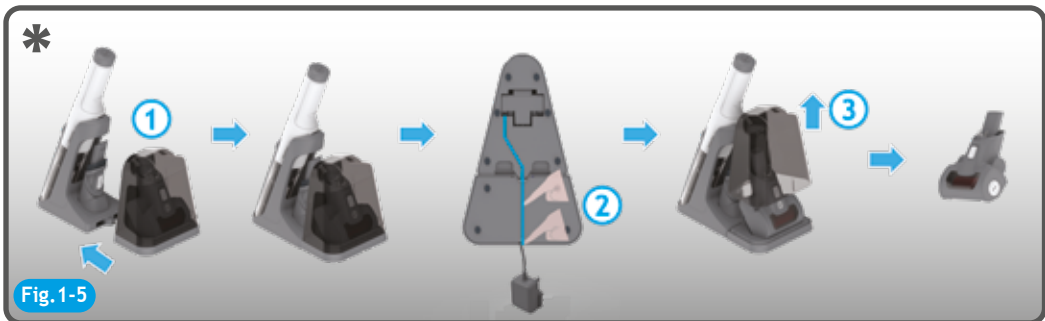
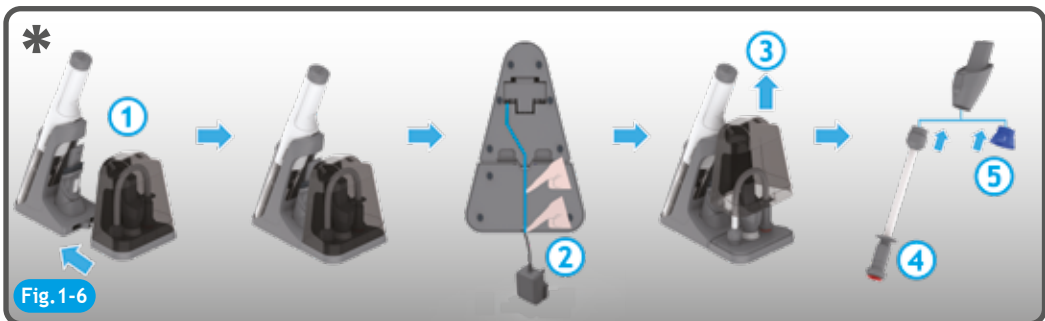

Fig. 1-5
Fig. 1-6
7. Insert the accessory box* into the back of charger base. [Fig. 1-5 and Fig. 1-6]
8. Press the wire into the wire slot. [Fig. 1-5 and Fig. 1-6]
9. Put the Power pet nozzle* into the accessory box*. [Fig. 1-5]
10. Put the Space & food saver kit* into the accessory box*. [Fig. 1-6]